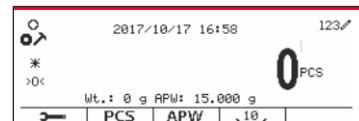

Figure 42
- Press the softkey corresponding to the  icon. (See Figure 42)